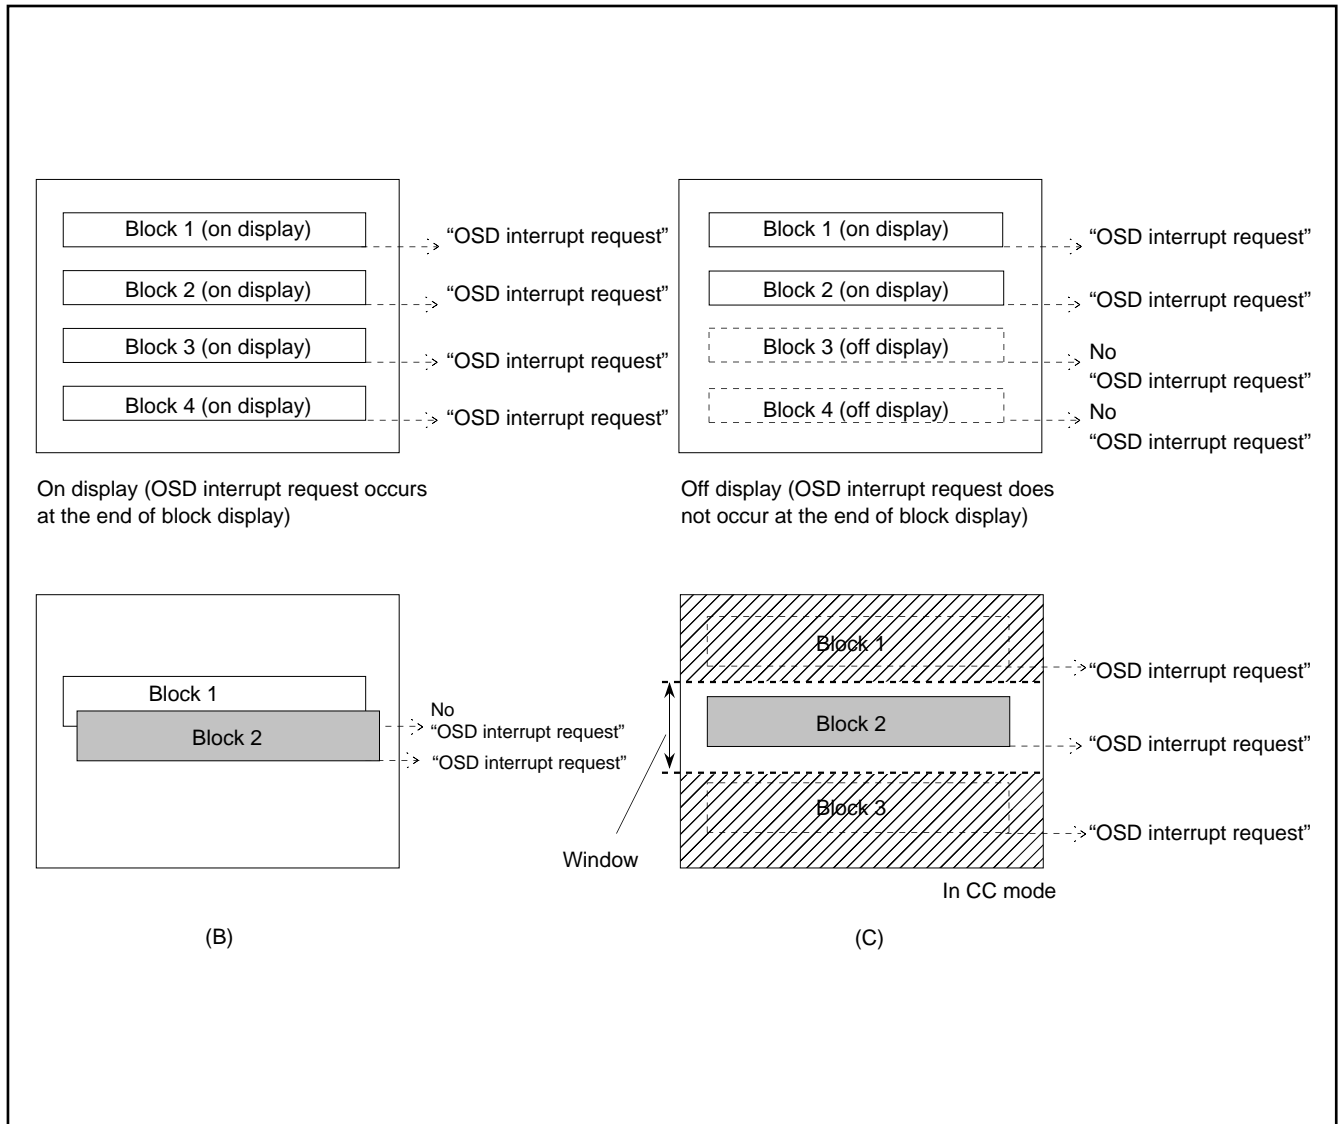

Fig. 75. Note on occurrence of OSD interrupt
- Notes 1:** An OSD interrupt does not occur at the end of display when the block is not displayed. In other words, if a block is set to off display by the display control bit of the block control register (addresses 00D016 to 00DF16), an OSD interrupt request does not occur (refer to Figure 75 (A)).
- 2:** When another block display appears while one block is displayed, an OSD interrupt request occurs only once at the end of the another block display (refer to Figure 75 (B)).
- 3:** On the screen setting window, an OSD interrupt occurs even at the end of the CC mode block (off display) out of window (refer to Figure 75 (C)).